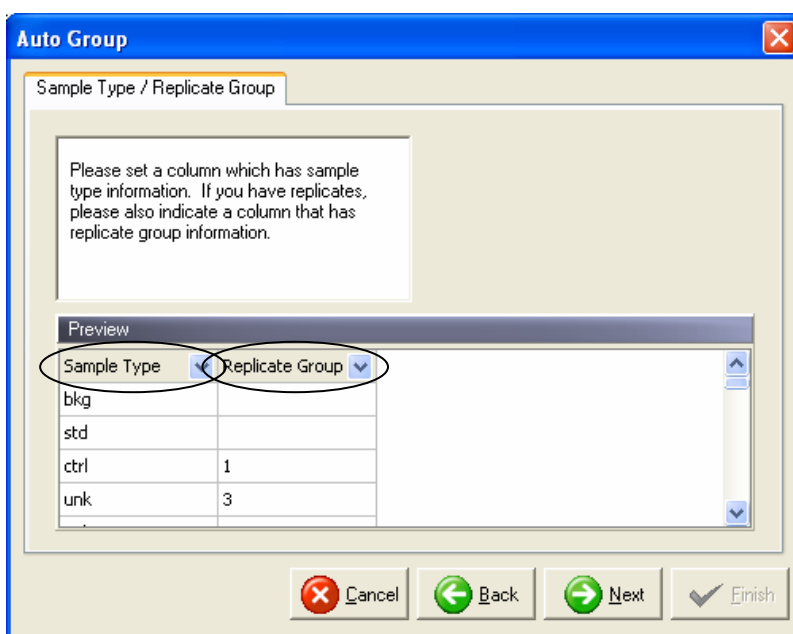

Figure 4.11 Specifying sample types
3. Step 2: specify sample type / replicate group. Users choose which segmented column represents sample type (e.g., standard, unknown, background ...), and which column represents replicate group (Figure 4.11).